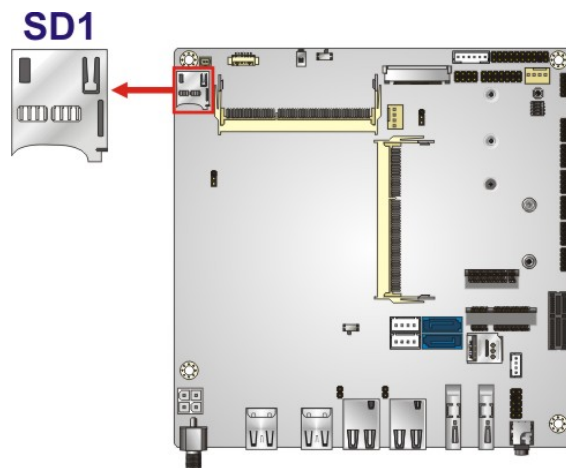

Figure 3-12: microSD Card Slot Location
- CN Location:** See **Figure 3-12**
CN Location:	See Figure 3-12